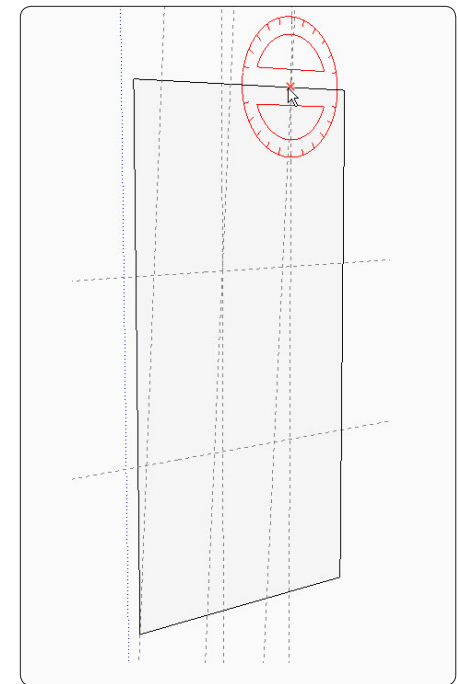

Figure 6. Draw a rectangle for the side, then place guide lines to define the shape of the steps and the arced cutout at the base.
Step 1 Use the Line Tool to draw a rectangular face for the side piece. Use the Tape Measure Tool to place horizontal guide lines for the locations of the steps and vertical guide lines to indicate the cutout locations. Then use the Protractor Tool to place angled guide lines for the risers. Figure 5 gives the angle to use, and Figure 6 shows the side with the guide lines in place.